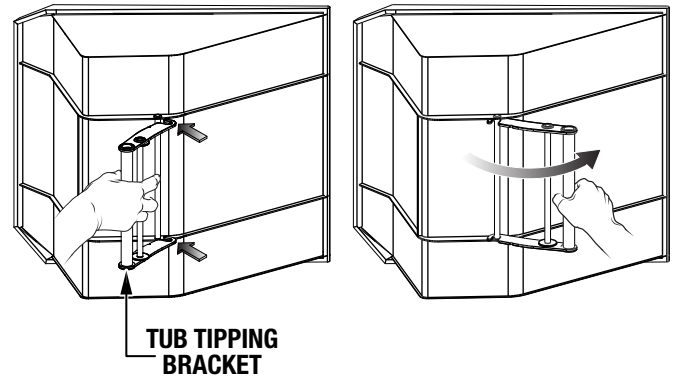

Figure 7. Tipping Bracket Installation
4. Attach the tub tipping bracket to the base of the tub as shown in Figure 7.